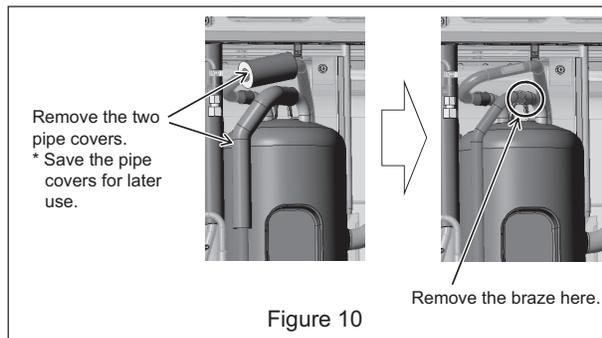

Figure 10
(10) Remove the pipe covers, and then remove the braze. (See Figure 10.)